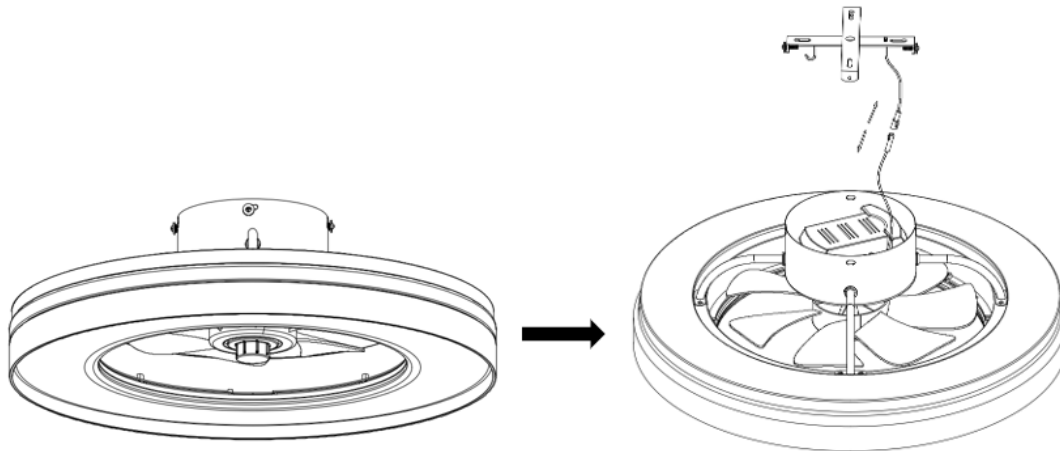

Fig. 2
- Remove the mounting bracket from the canopy of the fan assembly by loosening the screws on the side. Loosen the earth wire connector. (Fig.2)